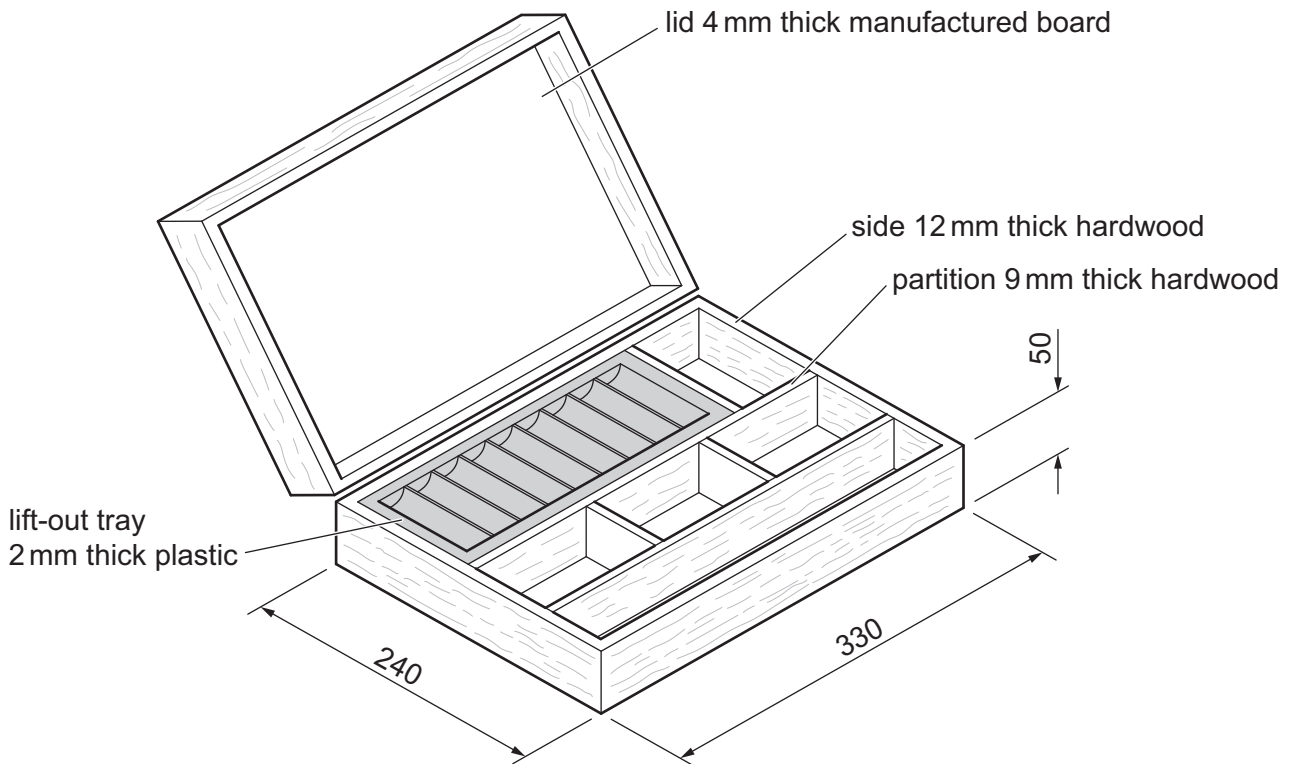

Fig. 13.1
- 13 Fig. 13.1 shows an incomplete design for a case to store and carry a selection of artist's materials and equipment.